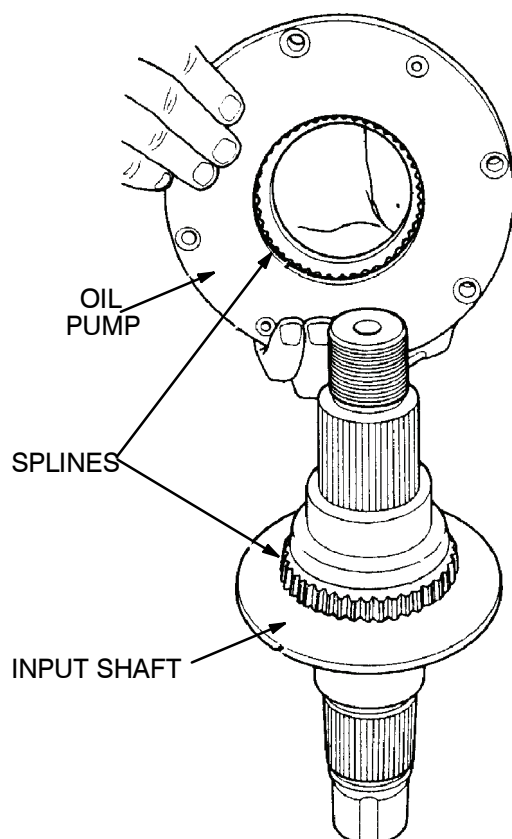

Figure 86.
- (a) Put the input shaft so that the threads are toward you. If dowel pins are used, install the oil pump on the input shaft so that the dowel pin hole in the pump is toward the threads on the shaft. If a 'drive flat' design pump is used, make sure that the drive flats in the bore of the pump are aligned with the flats on the input shaft. If a spline design pump is used, make sure the splines in the pump are aligned with the splines on the shaft. Figure 86.